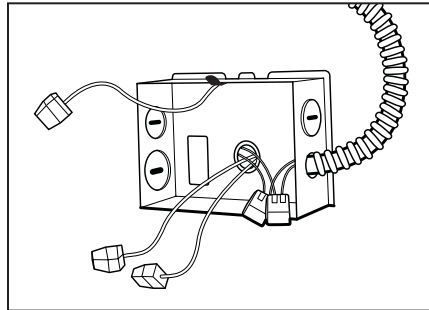

Figure 8
**Step 2.** Remove wiring box cover. Remove the appropriate knock-out(s) to accommodate the type of electrical service to be used/allowed by your local electrical code (Fig. 8):